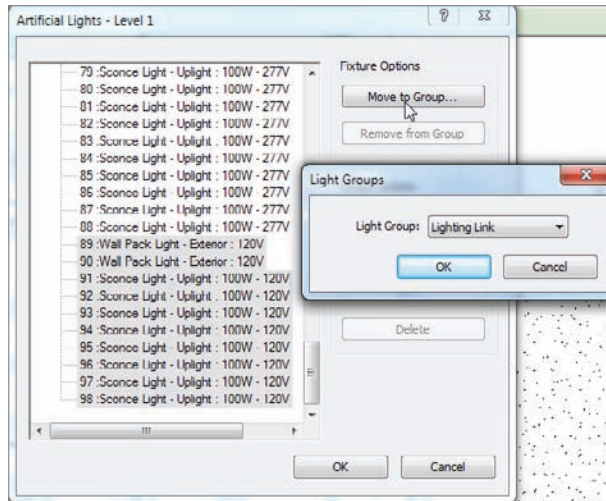

FIGURE 19.14 Creating a new group, and adding the proper lights
3. In the Artificial Lights - Level 1 dialog, click the New button in the Group Options area, as shown in Figure 19.14.
5. Scroll down to the bottom of the list and locate the lights Sconce Light - Uplight : 100W-120V. Select all of them, as shown in Figure 19.14. Also find the two wall packs and add them to the group as well.